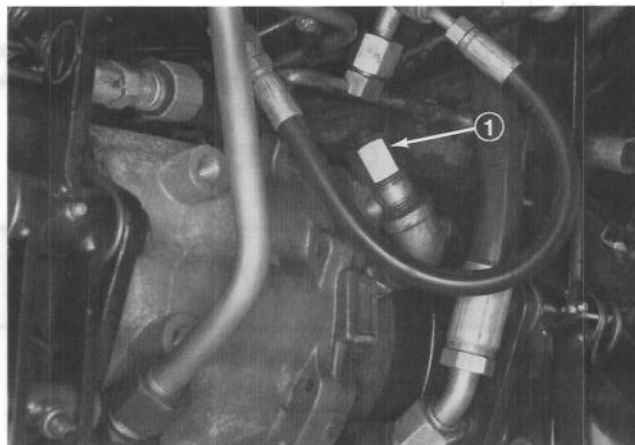

Figure 17
3. Unscrew dipstick cap (Fig. 17) from the filler neck and wipe it with a clean rag. Screw dipstick cap finger tight onto filler neck. Unscrew the dip-